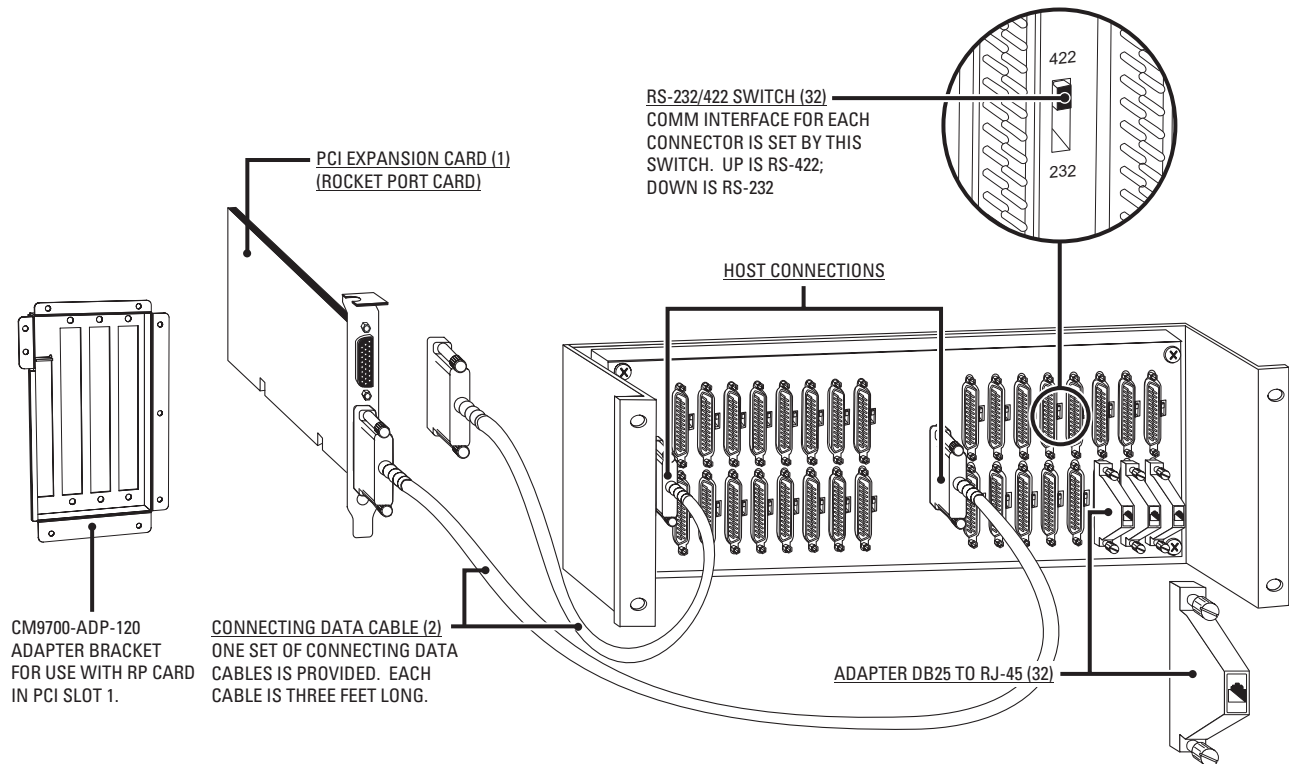

Figure 1. CM9700-SER-32 Assembly Detail
The CM9700-SER-32 port expander assembly increases by 32 the number of available Sercom (serial communication) ports in a node-based CM9700-CC1 via the installation of an RP (rocket port) PCI expansion card. A maximum of 120 total ports can be achieved by using three CM9700-SER-32 assemblies in conjunction with the Sercom cards in the CC1. Refer to Figure 1 for assembly detail.
3. Mount external hardware. Refer to Figure 1 and do the following:
4. Mount external hardware. Refer to Figure 1 and do the following:
7. Mount external hardware. Refer to Figure 1 and do the following: